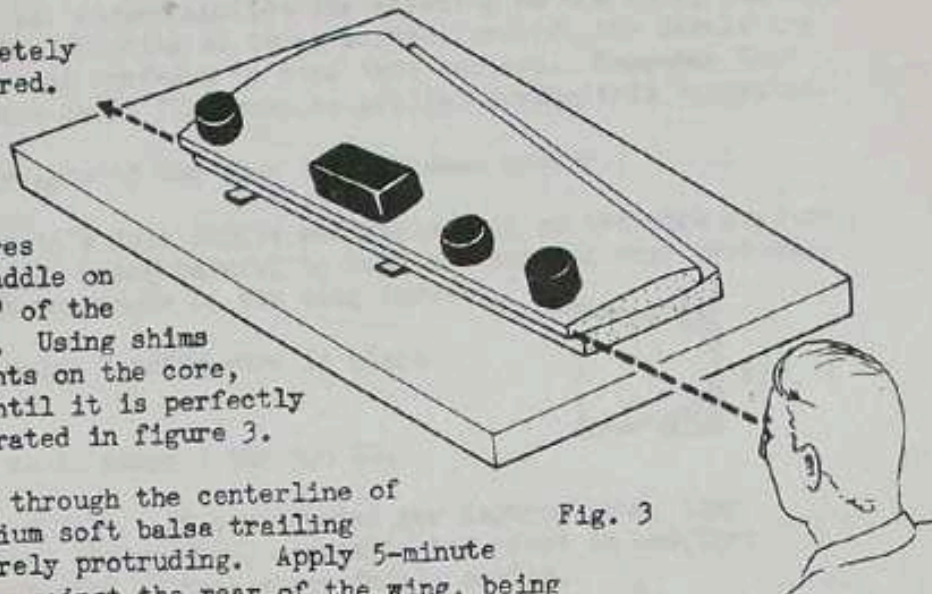

Fig. 3
3. To build the wing, a completely flat work surface is required. Remember that a warp of 1/64" built into the wing will cause undesirable flight characteristics. Select one of the wing cores and lay it in its foam saddle on the work surface with 1/2" of the trailing edge overhanging. Using shims under the saddle and weights on the core, align the trailing edge until it is perfectly straight. This is illustrated in figure 3.